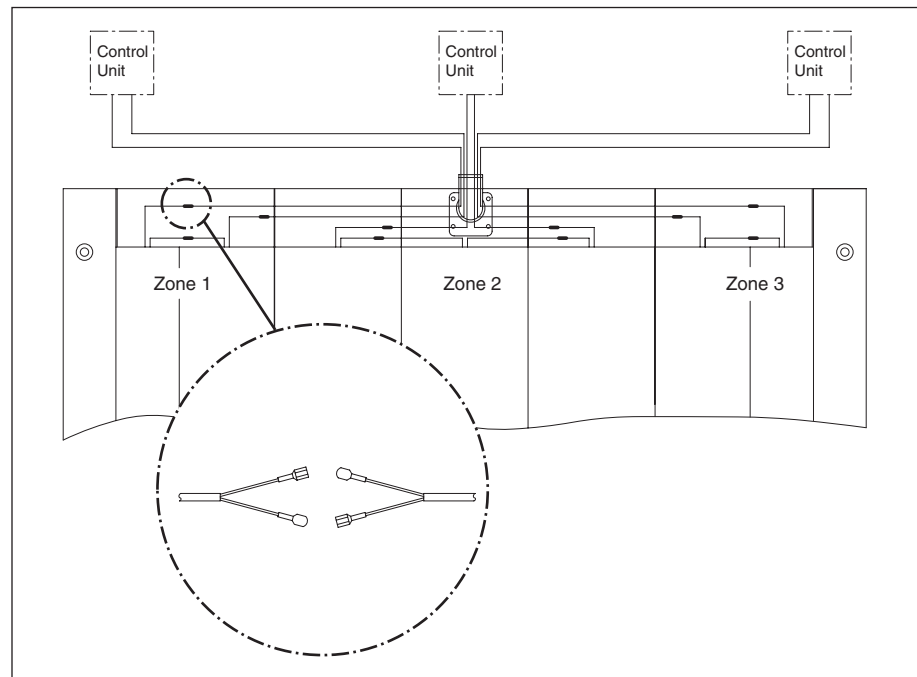

Fig. 5-9: Wiring diagram
1. Connect Safety Mats to one another in accordance with the wiring diagram (see Fig. 5-9, pg. 13). Observe the following: